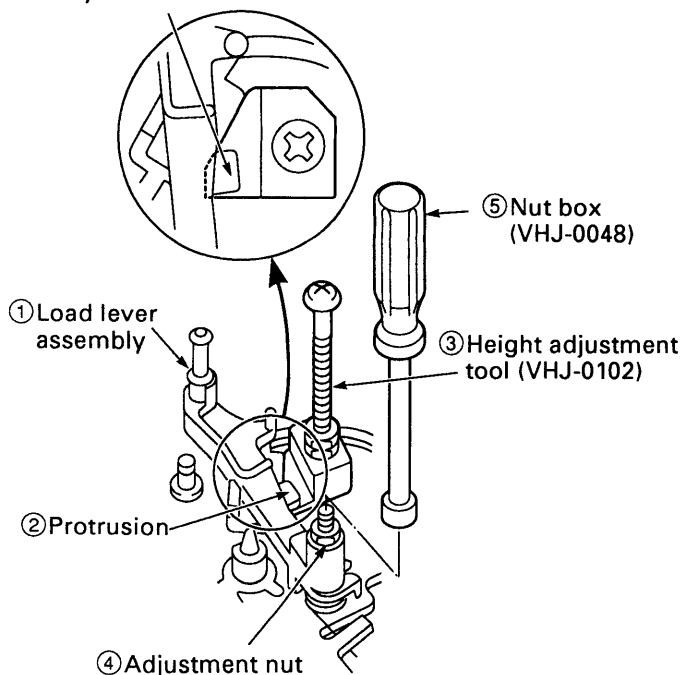

Fig.4-3-2
##### ADJUSTMENT (See Fig.4-3-2)
2. Position the height adjustment tool (VHJ-0102)③ under the full surface of the protrusion② on the load lever assembly①, as shown in Fig.4-3-2.
3. Using your fingers, gently screw the adjustment nut④ clockwise into the nut box (VHJ-0048)⑤ until the protrusion② of the load lever assembly① touches the height adjustment tool (VHJ-0102)③ and the screw starts to feel tight. Next, loosen the adjustment nut④ by 270° anticlockwise.